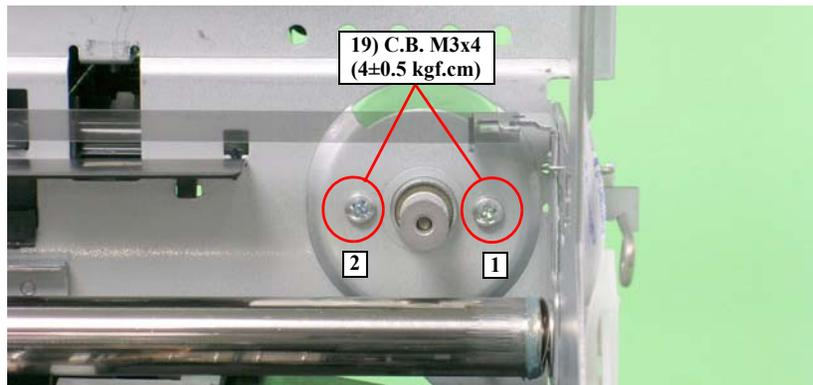

Figure 3-143. Removing the CR Motor
- Tighten the screws in the order shown in Figure 3-143